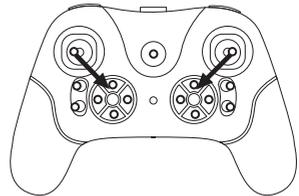

Fig. 4
- Turn on the transmitter and push the left throttle joystick (7) up and down to bind the aircraft. When you hear a beep sound, it means the transmitter has matched the aircraft and the LED lights will stop flashing. The binding is complete.
- Push left throttle joystick on the transmitter to the bottom right and push right direction joystick to the bottom left (Please make sure pushing 2 joysticks at the same time). See Fig. 4.